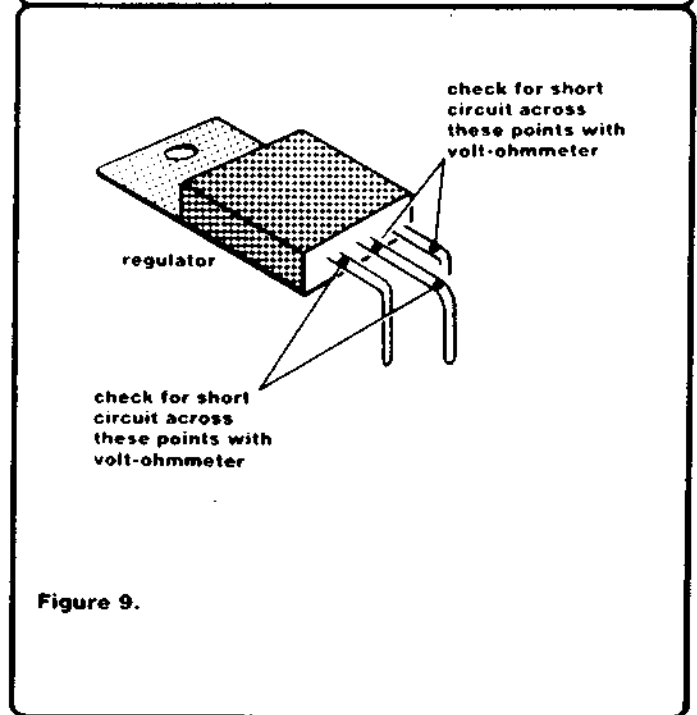

Figure 9.
3. Before proceeding, check your work so far by testing the board for any shorts between supply lines and ground. Referring to Figure 9, use a voltmeter to test for a shorted condition at the test points indicated on the regulator.